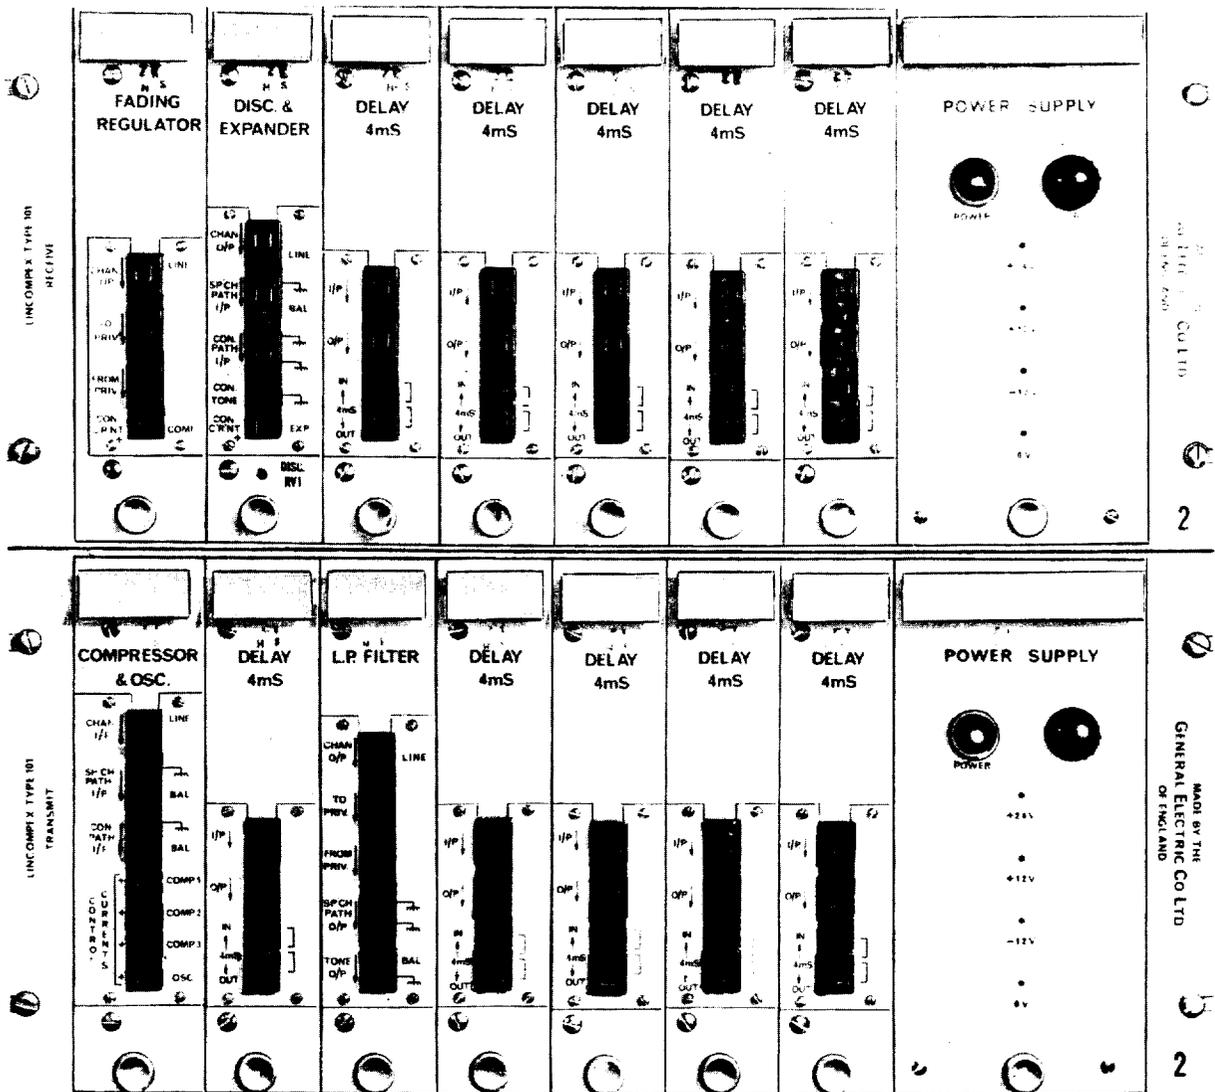

Fig. 1—Lincomplex 101 Transmit and Receive Unit
1.01 This section provides information on the testing of the Lincomplex 100/101 transmit and receive unit (Fig. 1). For a description of the transmit unit, see Section 403-311-101 and for the receive unit, see Section 403-311-102.